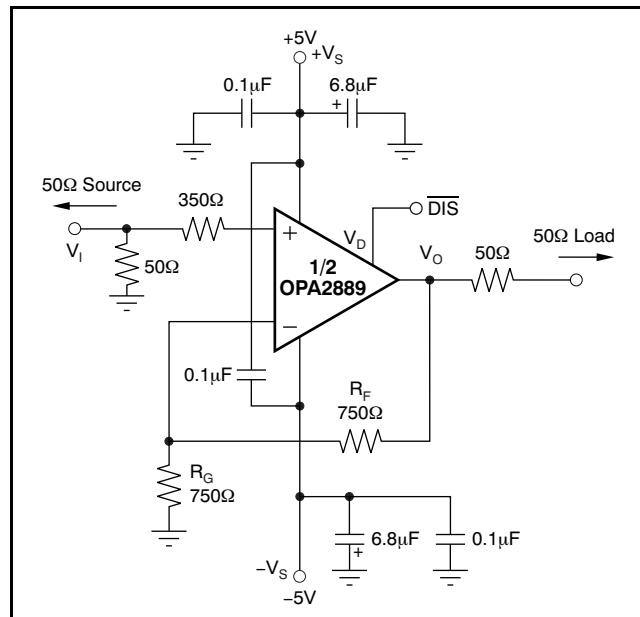
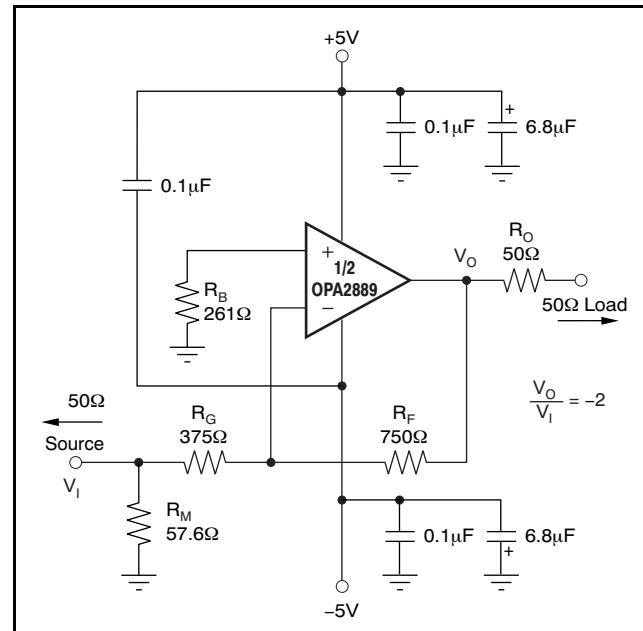

Figure 50. DC-Coupled, $G = +2$, Bipolar Supply, Specification and Test Circuit
Figure 60. Gain of -2V/V Example Circuit
At $T_A = +25^\circ\text{C}$, $G = +2\text{V/V}$, $R_F = 750\Omega$, and $R_L = 100\Omega$, unless otherwise noted. See Figure 50.
Figure 50 shows the dc-coupled, gain of +2V/V, dual power-supply circuit configuration used as the basis of the $\pm 5\text{V}$ Electrical Characteristics and $\pm 5\text{V}$ Typical Characteristics. This illustration is for one channel; the other channel is connected similarly. For test purposes, the input impedance is set to 50Ω with a resistor to ground and the output impedance is set to 100Ω . Voltage swings reported in the Electrical Characteristics are taken directly at the input and output pins, while output powers (dBm) are at the matched 50Ω load. For the circuit of Figure 50, the total effective load will be $100\Omega \parallel 1.5\text{k}\Omega$. The disable control line (MSOP-10 package only) is typically left open for normal amplifier operation. Two optional components are included in Figure 50. An additional resistor (350Ω) is included in series with the noninverting input. Combined with the 25Ω dc source resistance looking back towards the signal generator, this resistor gives an input bias current cancelling resistance that matches the 375Ω source resistance seen at the inverting input (see the DC Accuracy and Offset Control section). In addition to the usual power-supply decoupling capacitors to ground, a $0.1\mu\text{F}$ capacitor is included between the two power-supply pins. In practical printed circuit board (PCB) layouts, this optional-added capacitor typically improves the 2nd-harmonic distortion performance by 3dB to 6dB.
A good rule of thumb is to target the parallel combination of R_F and R_G (see Figure 50) to be less than approximately 400Ω . The combined impedance $R_F \parallel R_G$ interacts with the inverting input capacitance, placing an additional pole in the feedback network and thus, a zero in the forward response. Assuming a $2pF$ total parasitic on the inverting node, holding $R_F \parallel R_G < 400\Omega$ keeps this pole above $160MHz$. By itself, this constraint implies that the feedback resistor R_F can increase to several $k\Omega$ at high gains. This increase in resistor size is acceptable as long as the pole formed by R_F and any parasitic capacitance appearing in parallel is kept out of the frequency range of interest.
Voltage-feedback op amps exhibit decreasing closed-loop bandwidth as the signal gain increases. In theory, this relationship is described by the Gain Bandwidth Product (GBP) shown in the Electrical Characteristics. Ideally, dividing GBP by the noninverting signal gain (also called the Noise Gain, or NG) predicts the closed-loop bandwidth. In practice, this principle only holds true when the phase margin approaches 90° , as it does in high gain configurations. At low gains (increased feedback factors), most amplifiers exhibit a more complex response with lower phase margin. The OPA2889 is compensated to give a slightly peaked response in a noninverting gain of $2V/V$ (see Figure 50). This compensation results in a typical gain of $+2V/V$ bandwidth of $60MHz$, far exceeding that predicted by dividing the $75MHz$ GBP by 2. Increasing the gain causes the phase margin to approach 90° and the bandwidth to more closely approach the predicted value of (GBP/NG). At a gain of $+10$, the $8MHz$ bandwidth shown in the Electrical Characteristics agrees closely with that predicted using the simple formula and the typical GBP of $75MHz$.
The frequency response in a gain of $+2V/V$ may be modified to achieve exceptional flatness simply by increasing the noise gain to $2.5V/V$. One way to modify the response without affecting the $+2V/V$ signal gain, is to add a 750Ω resistor across the two inputs, as shown in the circuit of Figure 50. A similar technique may be used to reduce peaking in unity-gain (voltage follower) applications. For example, by using a 750Ω feedback resistor along
The OPA2889 is a general-purpose, wideband, voltage-feedback op amp; therefore, all of the familiar op amp application circuits are available to the designer. Inverting operation is one of the more common requirements and offers several performance benefits. See Figure 60 for a typical inverting configuration where the I/O impedances and signal gain from Figure 50 are retained in an inverting circuit configuration.
In the inverting configuration, three key design considerations must be noted. The first is that the gain resistor (R_G) becomes part of the signal channel input impedance. If input impedance matching is desired (which is beneficial whenever the signal is coupled through a cable, twisted-pair, long PCB trace, or other transmission line conductor), R_G may be set equal to the required termination value and R_F adjusted to give the desired gain. This consideration is the simplest approach and results in optimum bandwidth and noise performance. However, at low inverting gains, the resultant feedback resistor value can present a significant load to the amplifier output. For an inverting gain of -2V/V , setting R_G to 50Ω for input matching eliminates the need for R_M but requires a 100Ω feedback resistor. This approach has the interesting advantage that the noise gain becomes equal to 2V/V for a 50Ω source impedance—the same as the noninverting circuits considered in Figure 60. The amplifier output, however, now sees the 100Ω feedback resistor in parallel with the external load. In general, the feedback resistor should be limited to the 200Ω to $1.5\text{k}\Omega$ range. In this case, it is preferable to increase both the R_F and R_G values (see Figure 60), and then achieve the input matching impedance with a third resistor (R_M) to ground. The total input impedance becomes the parallel combination of R_G and R_M .
The second major consideration, touched on in the previous paragraph, is that the signal source impedance becomes part of the noise gain equation and influences the bandwidth. For the example in Figure 60, the R_M value combined in parallel with the external 50Ω source impedance yields an effective driving impedance of $50\Omega \parallel 57.6\Omega = 26.7\Omega$. This impedance is added in series with R_G for calculating the noise gain (NG). The resulting NG is 2.86V/V for Figure 60, as opposed to only 2V/V if R_M could be eliminated as discussed above. Therefore, the bandwidth is slightly lower for the gain of -2V/V circuit of Figure 60 than for the gain of $+2\text{V/V}$ circuit of Figure 50.
The third important consideration in inverting amplifier design is setting the bias current cancellation resistor on the noninverting input (R_B). If this resistor is set equal to the total dc resistance looking out of the inverting node, the output dc error, as a result of the input bias currents, is reduced to $(\text{Input Offset Current}) \times R_F$. If the 50Ω source impedance is dc-coupled in Figure 60, the total resistance to ground on the inverting input is 402Ω .
The OPA2889 provides good distortion performance into a 200Ω load on $\pm 5\text{V}$ supplies. Relative to alternative solutions, it provides exceptional performance into lighter loads and/or operating on a single $+5\text{V}$ supply. Generally, until the fundamental signal reaches very high frequency or power levels, the 2nd-harmonic dominates the distortion with a negligible 3rd-harmonic component. Focusing then on the 2nd-harmonic, increasing the load impedance improves distortion directly. Remember that the total load includes the feedback network; in the noninverting configuration (see Figure 50), this total is the sum of $R_F + R_G$, while in the inverting configuration it is just R_F . Also, providing an additional supply-decoupling capacitor ($0.1\mu\text{F}$) between the supply pins (for bipolar operation) improves the 2nd-order distortion slightly (3dB to 6dB). Operating differentially also lowers 2nd-harmonic distortion terms (see the plot on the front page).
Evaluating these two equations for the OPA2889 circuit and component values (see Figure 50) gives a total output spot noise voltage of $18.2\text{nV}/\sqrt{\text{Hz}}$ and a total equivalent input spot noise voltage of $9.1\text{nV}/\sqrt{\text{Hz}}$. This total includes the noise added by the bias current cancellation resistor (350Ω) on the noninverting input. This total input-referred spot noise voltage is slightly higher than the $8\text{nV}/\sqrt{\text{Hz}}$ specification for the op amp voltage noise alone. This result is the case as long as the impedances appearing at each op amp input are limited to the
previously recommended maximum value of 400Ω . Keeping both $(R_F \parallel R_G)$ and the noninverting input source impedance less than 400Ω satisfies both noise and frequency response flatness considerations. Because the resistor-induced noise is relatively negligible, additional capacitive decoupling across the bias current cancellation resistor (R_B) for the inverting op amp configuration of Figure 60 is not required.
The balanced input stage of a wideband voltage-feedback op amp allows good output dc accuracy in a wide variety of applications. The power-supply current trim for the OPA2889 gives even tighter control than comparable amplifiers. Although the high-speed input stage does require relatively low $\pm 0.75\mu\text{A}$ input bias current, the close matching between them may be used to reduce the output dc error caused by this current. The total output offset voltage may be reduced by matching the dc source resistances appearing at the two inputs. This matching reduces the output dc error resulting from the input bias currents to the offset current times the feedback resistor. Evaluating the configuration of Figure 50, and using worst-case $+25^\circ\text{C}$ input offset voltage and current specifications, gives a worst-case output offset voltage equal to: